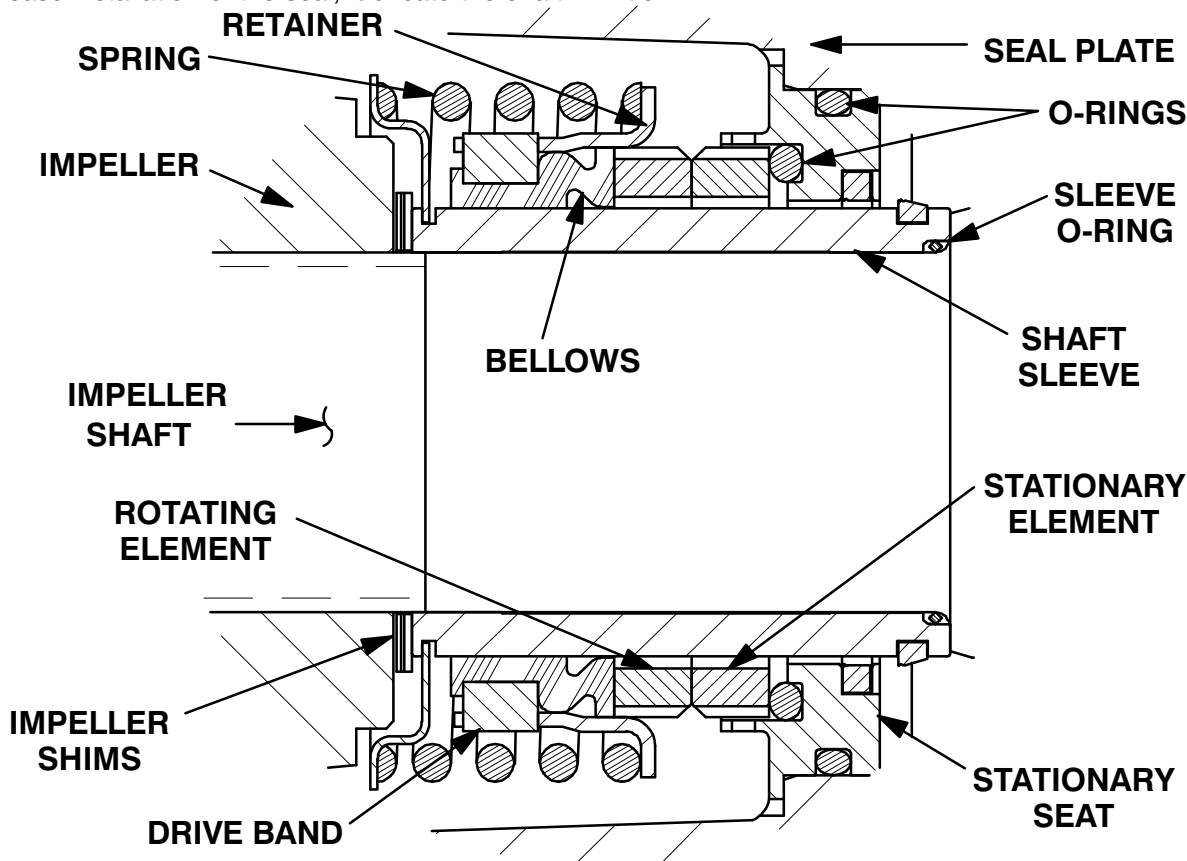

Figure 8. Cartridge Seal Assembly
sleeve O-ring (30) and the external stationary seat O-ring with a very **small** amount of “P-80® Emulsion” or water. See Figure 8 for seal part identification.